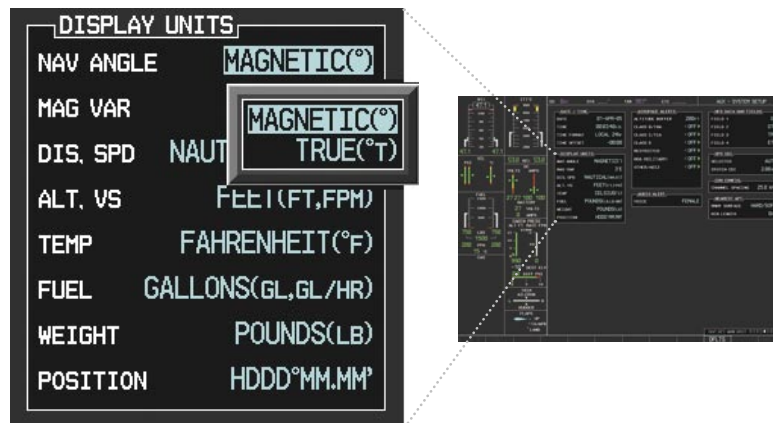

Figure 2-20 System Setup Page, Navigation Angle Settings
- 3) Turn the large **FMS** Knob to highlight 'Nav Angle' in the 'Display Units' box (Figure 2-20).